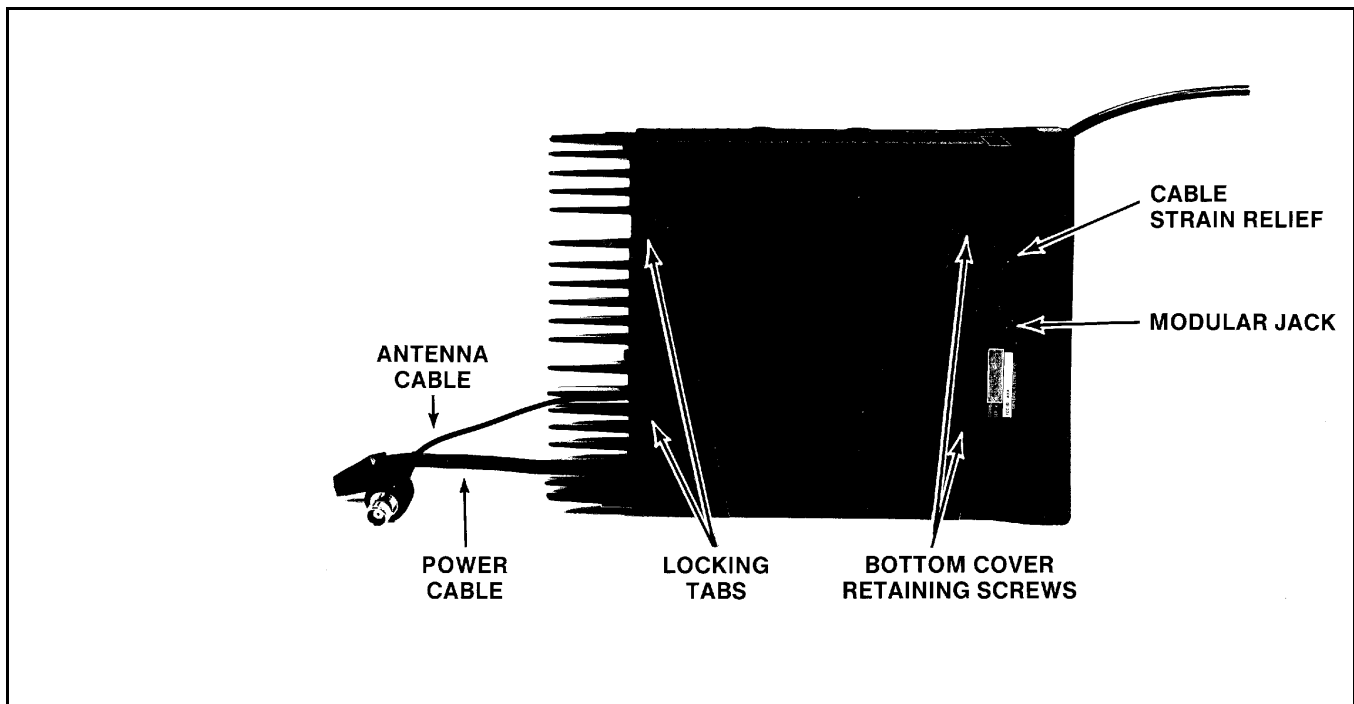

Figure 1 Radio Cover Removal
Disassembly procedures are provided to completely disassemble the radio. In general, reassembly is in the reverse order. Included are procedures to remove the top and bottom covers, duplexer, RF board, Audio Board, Logic Board, Duplexer/Interface Board, System Board, and Front Cap Assembly including the Handset/Interface board. Refer to Figure 1, Radio Disassembly.
1. Remove the two screws securing the bottom cover to the radio. (Refer to Figure 1.) The bottom cover can then be removed from the radio.